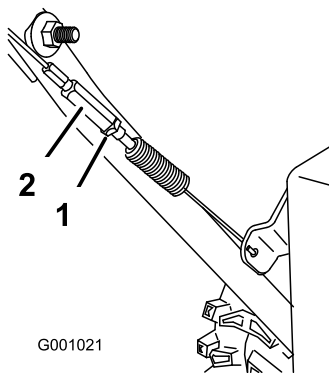

Figure 35
3. Tighten the jam nut (Figure 35).